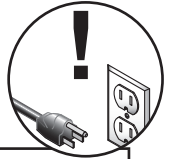

Figure 15. Lubricating the sleeve bearings.
3. Apply two or three drops of oil in the hole at the end of the idler pulley (**Figure 15**).